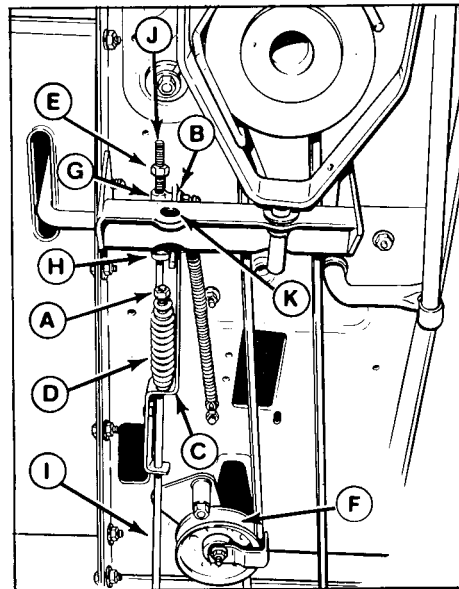

Figure 32. Brake-Clutch Adjustment
- Place the transmission in gear and release the parking brake. Move the brake rod (I, figure 32) back and forth to be sure there is no tension on the brake pads.
The clutch-brake pedal must be in up position. With one hand, push rod guide (C, figure 32) as far forward as slot (B) will allow while pulling rod (I) back with other hand. With rod guide in this position, tighten or loosen nut (A) until 1/4 inch of clearance is obtained between nut and end of spring (D).
- With the pedal up, push the idler pulley (F, figure 32) firmly against the belt. With the pulley in this position, the gap between nut (E) and the rod guide (G) should be 7/8 to 1 inch (22 to 25 mm). If not, tighten nut (E) to decrease gap or loosen nut to increase gap. Recheck measurement.
- Depress and lock the clutch-brake pedal. Loosen the setscrew in the set collar (H). Move the collar against the spring which is located between collar (H) and rod guide (G). Be sure spring is seated as far as possible over rod guide (G). Tighten the setscrew; the spring should be free to